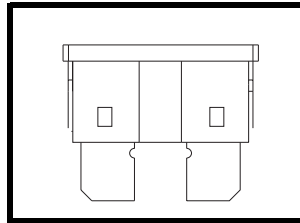

Figure 20. Working Fuse
2. Examine the fuse to be sure it is blown. See figures 20 and 21.